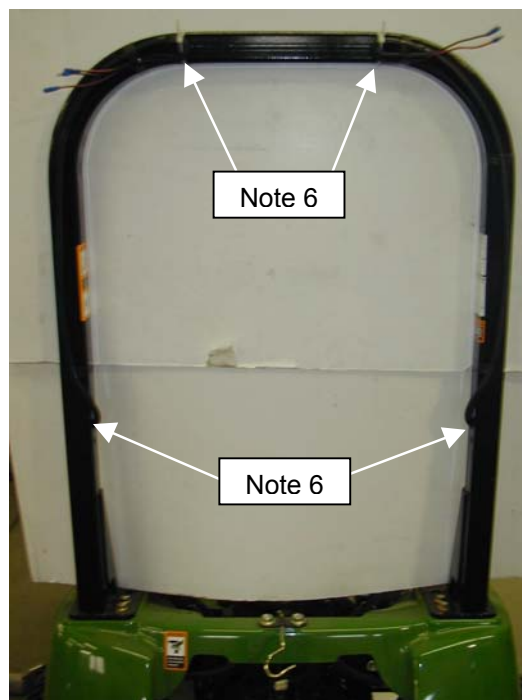

Figure 6
(4) 1/4" flat washers #3-10084
6. Install (2) Dual Light Wire Extension Kits #8-14726 and route wires into roll bar where factory rear light wires were routed. See Figure 6. Secure wires with (8) nylon ties, 3-16494.